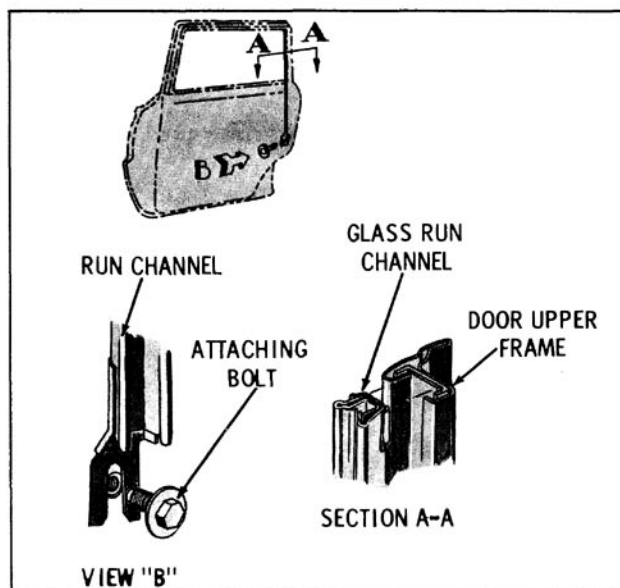

Fig. 16-60 Glass Run Channel (19-35-45 & 69 Styles)
2. On 19-35-45 and 69 styles, through large access hole, remove screw securing lower end of glass run channel at door lock pillar and raise end of channel to expose lock assembly. (Fig. 16-60)
hinge pillar to gain access to spring clip securing rod to lock. (Fig. 16-60)
3. On 19, 35, 45 and 69 styles, remove glass run channel lower attaching screw to gain access to spring clip securing rod to lock. (Fig. 16-60)